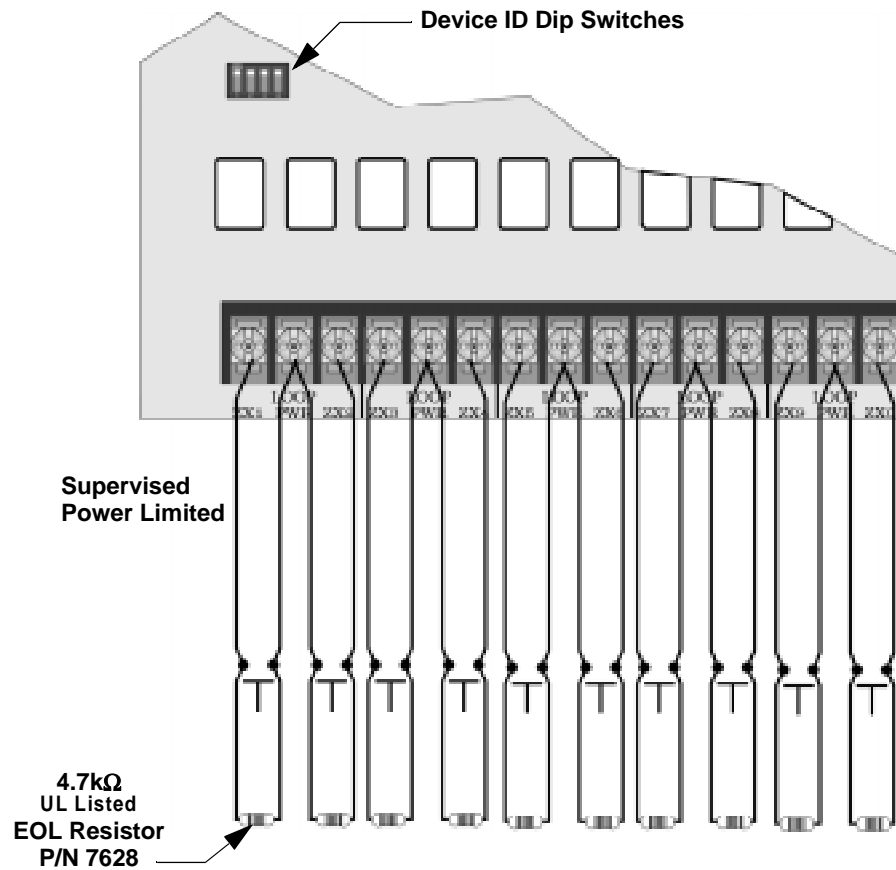

Figure 3-20 Model SK-5217 Class B (Style B) Circuits
Figure 3-20 shows how to wire the SK-5217. Use a 4.7k end of line resistor for each Class B circuit. The EOL must be wired in parallel with the normally open contact farthest from the panel. See Appendix A for a list of the smoke detectors that can be used with the SK-5217.
4. Wire the zone inputs to the zone expander as shown in Figure 3-20.
6. Wire the zone inputs to the zone expander as shown in Figure 3-20.